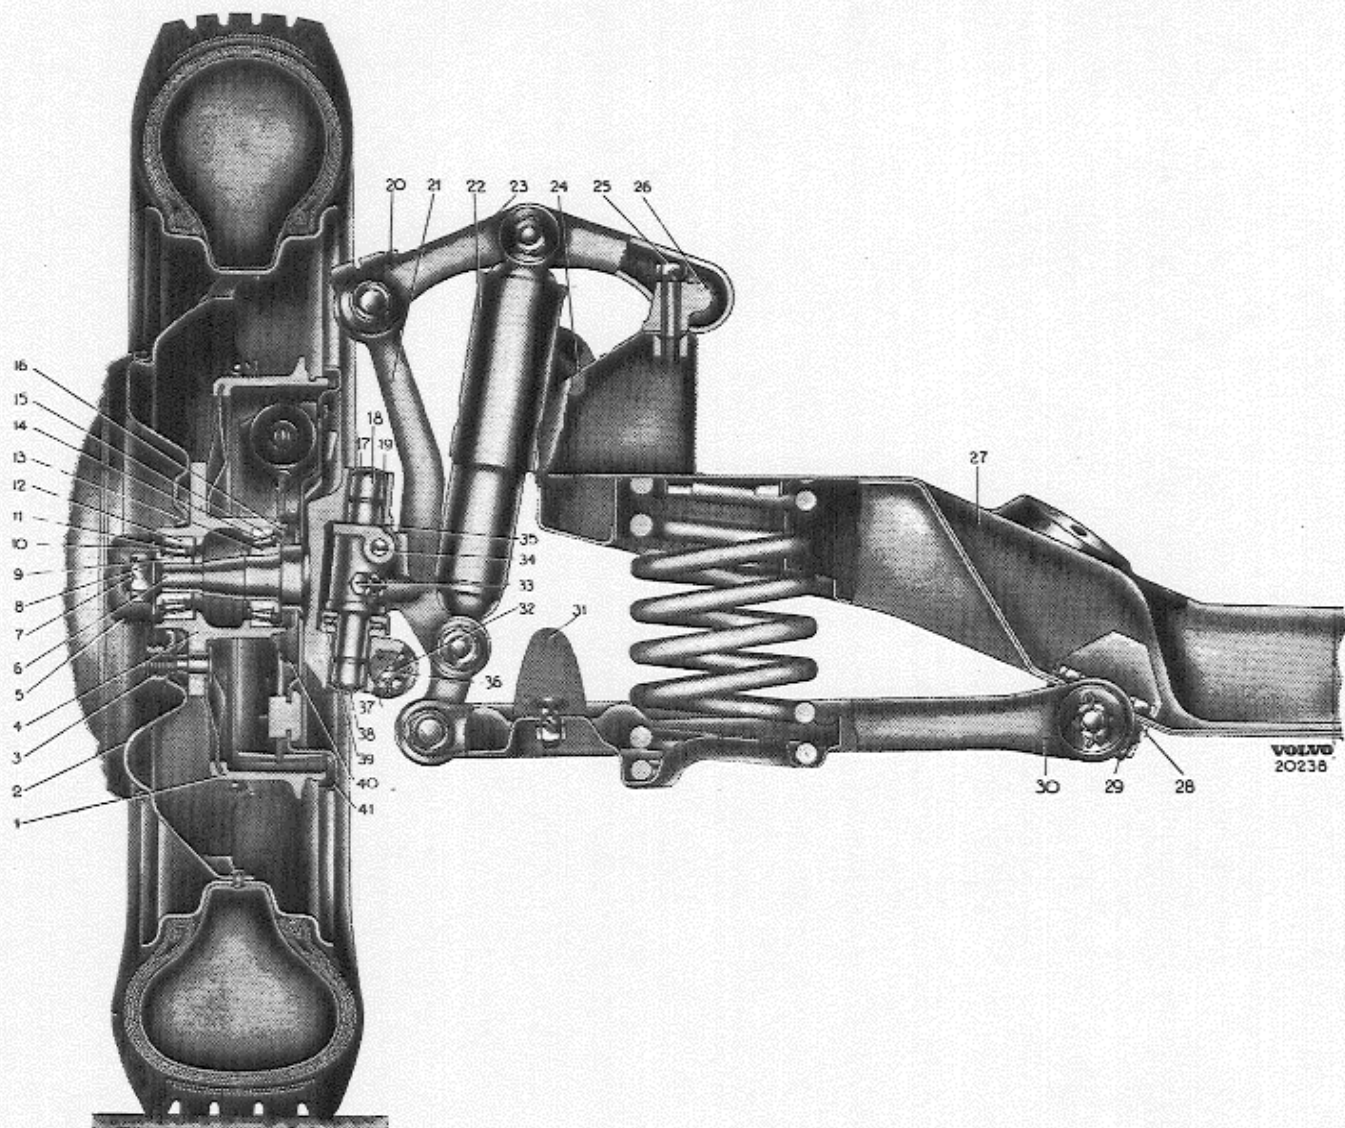

Fig. 7. Front axle
The stub axle (6, Fig. 7) is carried by the king pin (18) on which the steering knuckle is pivoted. The axial thrust of the steering knuckle support is taken up by a ball bearing (39).
4. Remove the four bolts which hold the brake backing plate in place (41, Fig. 7) and splash guard (40) to the stub axle (6). Lift off the brake backing plate, after which it should be tied up with a piece of wire or similar so that the brake hose is not damaged.